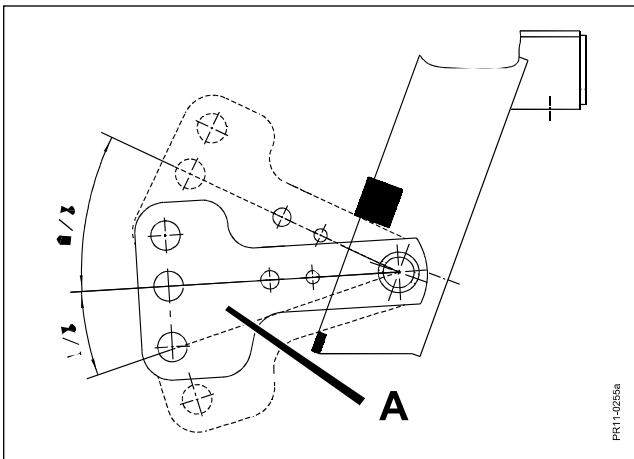

Fig. 2-3
- Fig. 2-3 c) The connection is made so that the ground contour following ability is optimal, and the lever arm **A** is as far as possible able to move 1/3 downwards and 2/3 upwards.